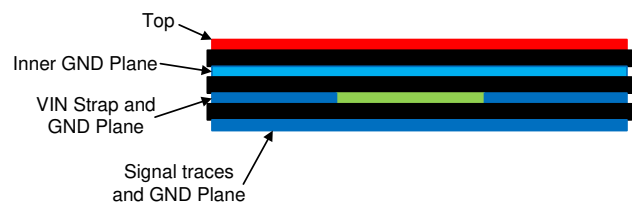

图 10-2. Example Layout for VQFN Package
The PCB layout of any DC/DC converter is critical to the optimal performance of the design. Bad PCB layout can disrupt the operation of an otherwise good schematic design. Even if the converter regulates correctly, bad PCB layout can mean the difference between a robust design and one that cannot be mass produced. Furthermore, the EMI performance of the regulator is dependent on the PCB layout, to a great extent. In a buck converter, the most critical PCB feature is the loop formed by the input capacitor or input capacitors, and power ground, as shown in 图 10-1. This loop carries large transient currents that can cause large transient voltages when reacting with the trace inductance. These unwanted transient voltages will disrupt the proper operation of the converter. Because of this, the traces in this loop must be wide and short, and the loop area as small as possible to reduce the parasitic inductance. 图 10-2 shows a recommended layout for the critical components of the LMR33620-Q1.
1. **Place the input capacitor or capacitors as close as possible to the VIN and GND terminals.** VIN and GND pins are adjacent, simplifying the input capacitor placement. With the VQFN package there are two VIN/PGND pairs on either side of the package. This provides for a symmetrical layout and helps minimize switching noise and EMI generation. A wide VIN plane must be used on a lower layer to connect both of the VIN pairs together to the input supply; see 图 10-2.